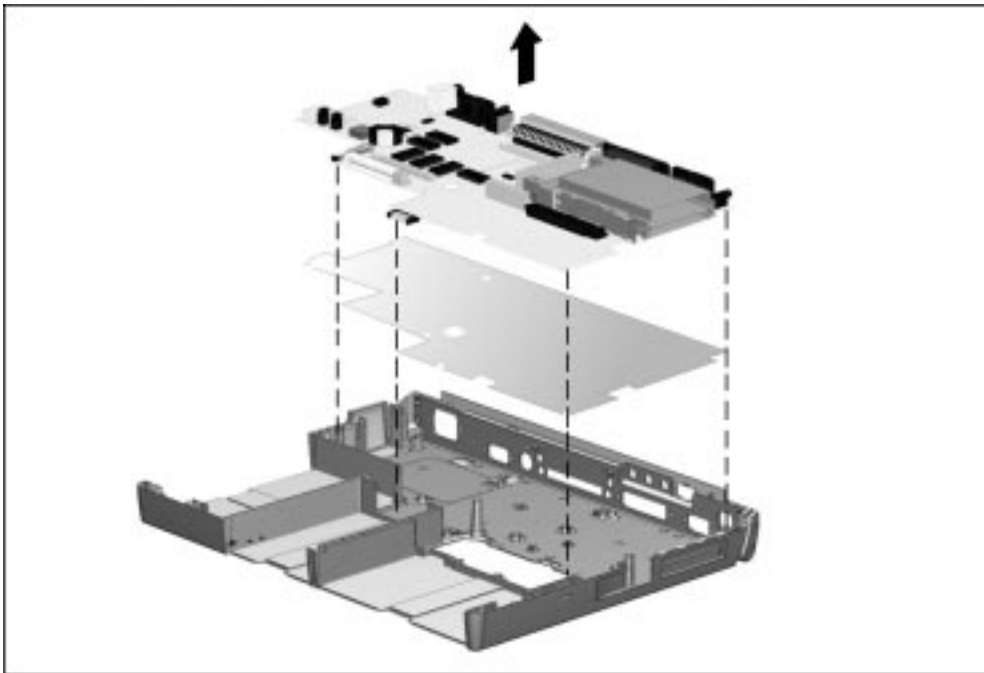

Figure 5-79. Removing the System Board and Insulator
25. Lift the front of the system board. When the front edge of the system board clears the base assembly, lift the system board out of the base assembly (Figure 5-79).